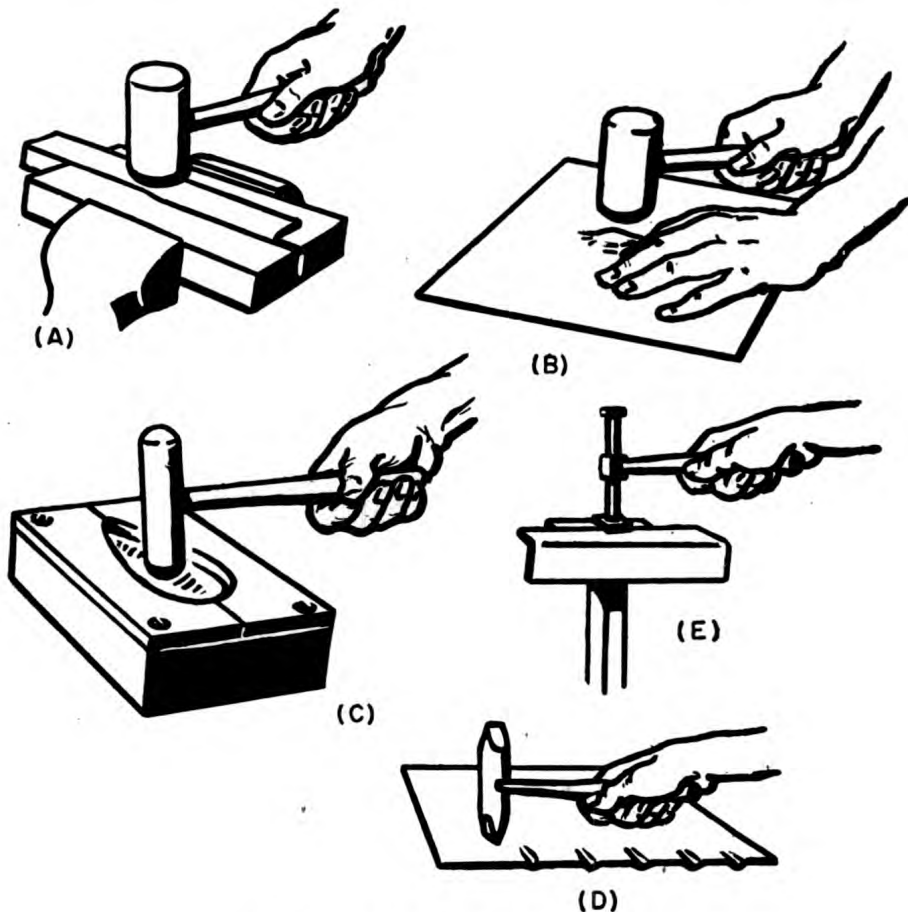

Figure 39.—Use of mallets.
The flat-face wooden mallet is used, as in (A) and (B) of figure 39, for bending and planishing (smoothing out) dents in the surfaces of large sheet metal sections. A flat-face rawhide mallet is often used for the same purposes as a wooden one but is usually used where heavier blows are needed.